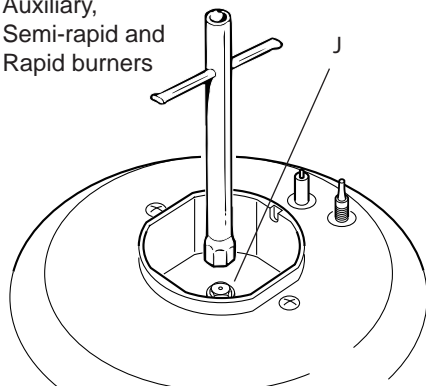

Fig. 10.10
- Using a wrench, substitute the nozzle injectors “J” (figs. 10.10, 10.11) with those most suitable for the kind of gas for which it is to be used.